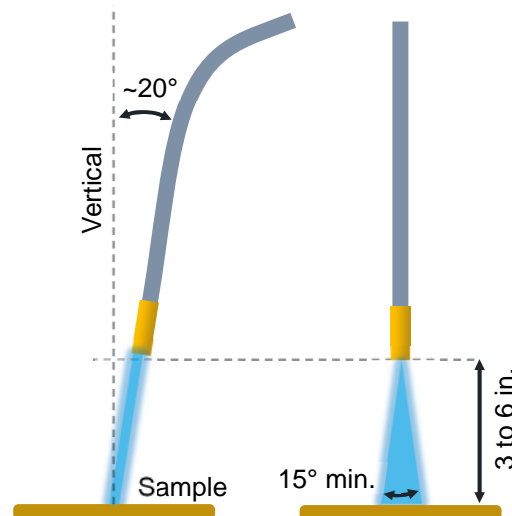

Figure 3: The fan angle, the application distance, the application angle of the pressure washer.
- 5.2. Water pressure shall be between 800 psi and 1,500 psi. The flow rate shall be between 4 gal/min to 6 gal/min. The nozzle shall have a fan type spray that disperses water with an at least 15° angle. The spray gun should be held at an angle approximately 20° from vertical. Position the nozzle 3 to 6 inches from the face of the panel and direct the flow as shown in **Figure 3**.